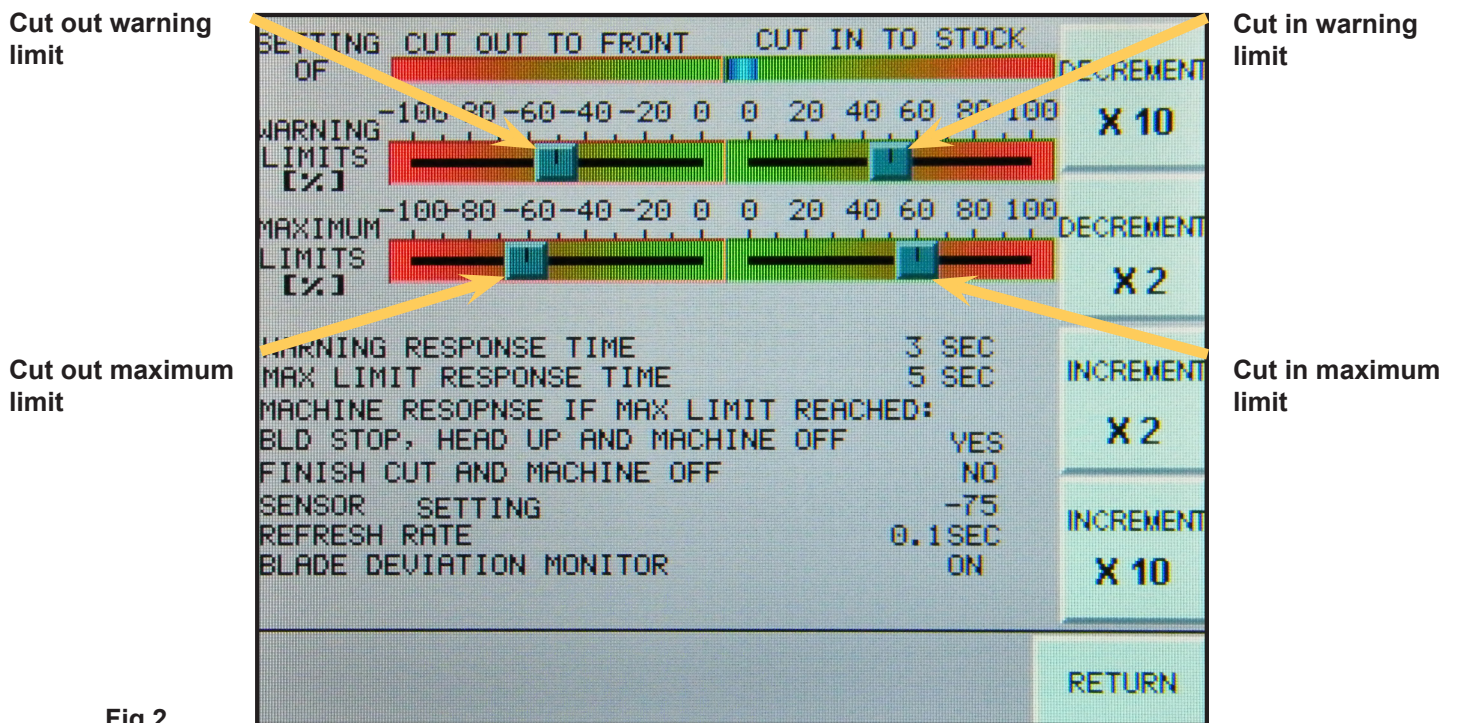

Fig.2
1. Enter the MONITOR LIMIT SETTING screen by pressing function key F1 labeled blade deflection limit. The MONITOR LIMIT SETTING screen will be displayed (Fig. 2)
To adjust the warning and shutdown limits, enter the MONITOR LIMIT SETTING screen by pressing function key F1 labeled BLADE DEFLECT LIMIT (Screen will change as shown in Fig.2)